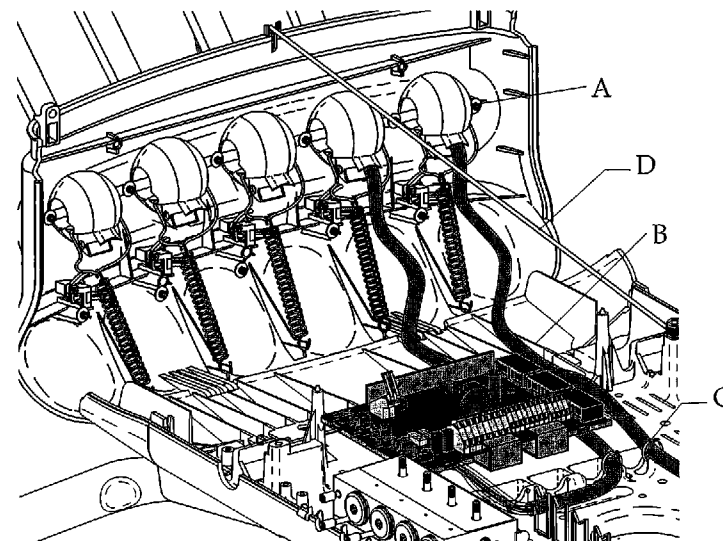

Figure 20. Route handpiece tubing through structural platform grooves. (A) whip cover; (B) structural platform groove; (C) tubing retainers; (D) lanyard
3. Route the handpiece tubing through the grooves in the structural platform and under the circuit board (see Figure 20).